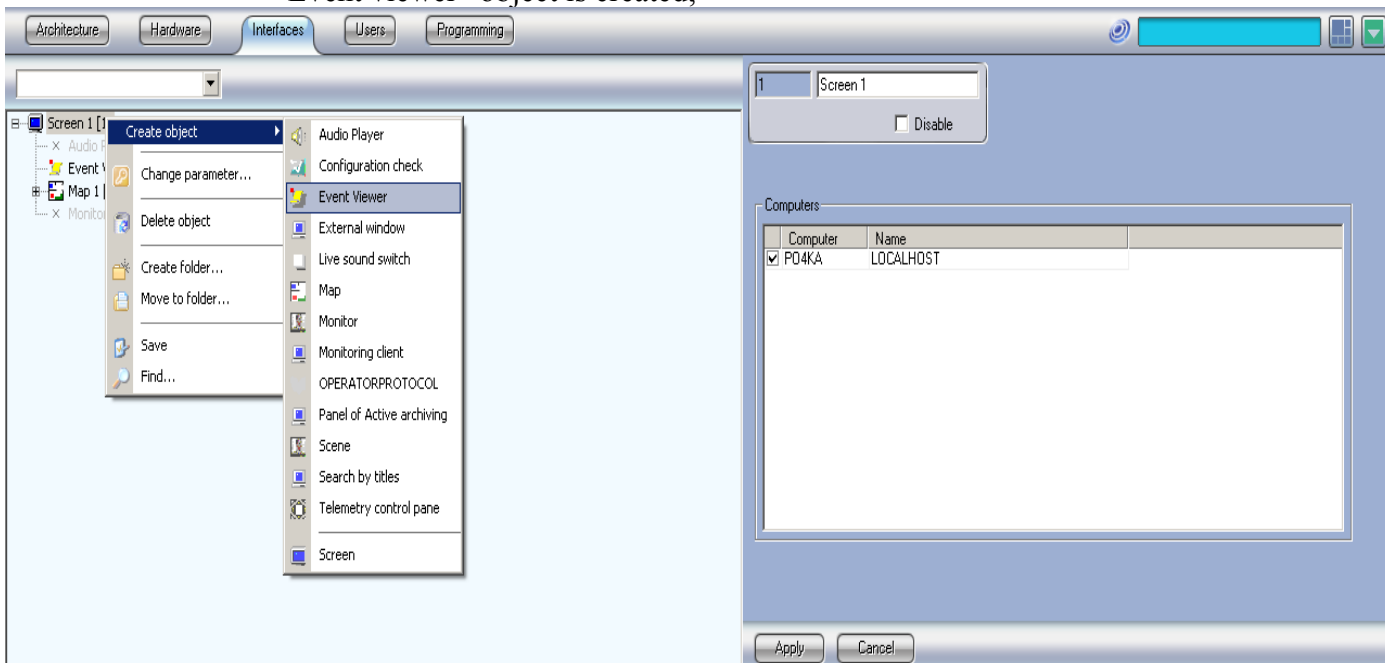

fig. 41
- 1) From menu “System settings → Interfaces → Event viewer” (fig.41) the “Event viewer” object is created;